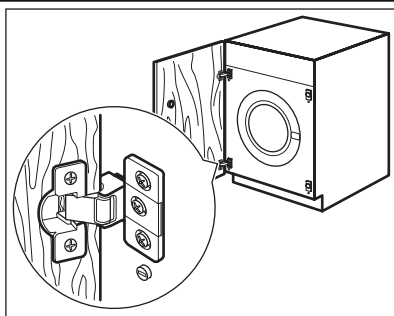

Fig. 2
- The machine is originally pre-arranged for the assembly of a door opening from right to left (Fig. 2).